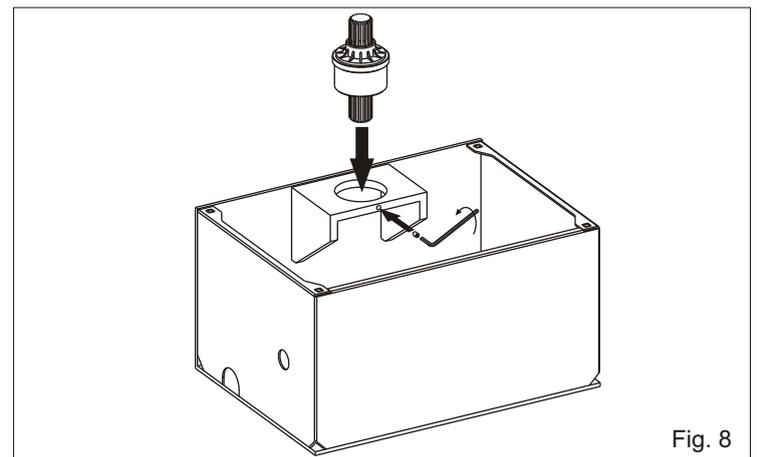

Fig. 8
2.4. Put the jointed splined shaft into the upper hole of the carrying box and fix it with the provided screw (Fig. 8)